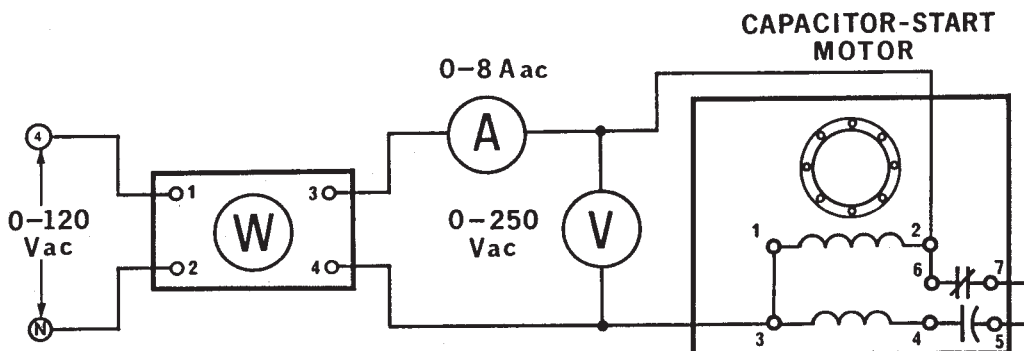

Figure 11-4.
- 6. Using your Single-Phase Wattmeter, Electrodynamometer, AC Ammeter and AC Voltmeter, connect the circuit shown in Figure 11-4.